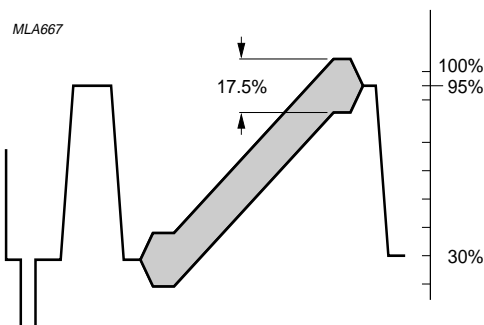

Fig.2 Video output signal.
- Measured according to the test line illustrated by Fig.2. The differential gain is expressed as a percentage of the difference in peak amplitudes between the largest and smallest value relative to the subcarrier amplitude at blanking level. The differential phase is defined as the difference in degrees between the largest and smallest phase angle. The differential gain and phase are measured with a DSB signal.